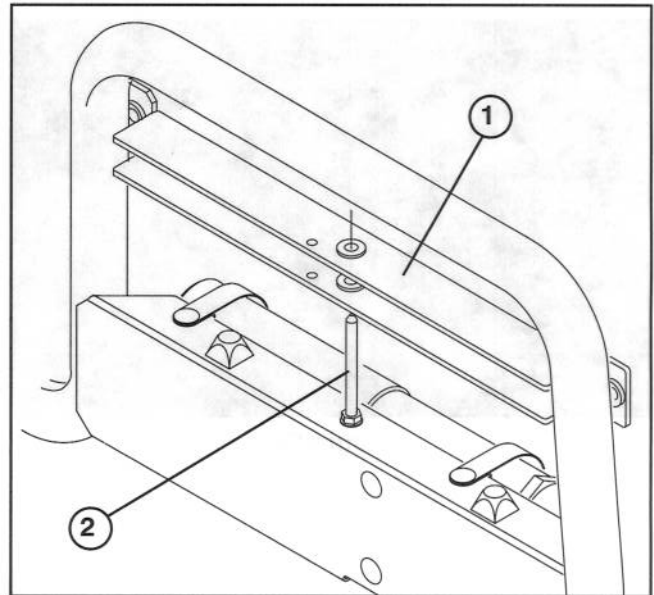

Figure 25
USING BED SAFETY SUPPORT (Fig. 25 & 26)
2. Remove bed support from storage stud on top of back rest support channel on Workman (Fig. 25).